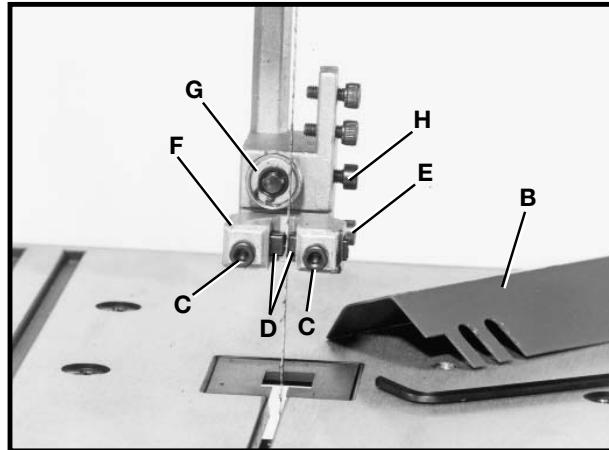
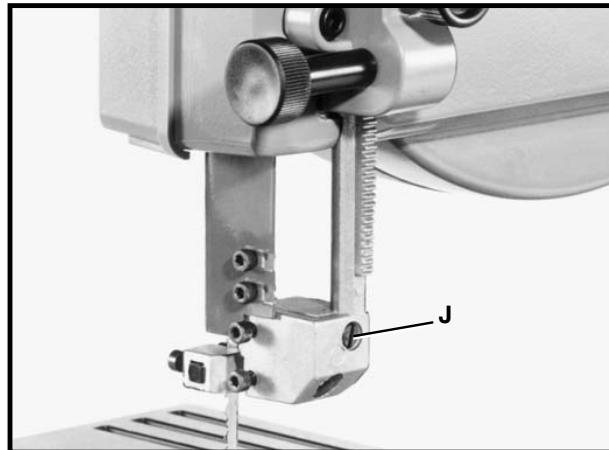

Fig. 22
Fig. 23
1. **NOTE:** Upper blade guard (B) Fig. 22, is shown removed for clarity.
2. Loosen the two screws (C) Fig. 22, and adjust the blade guides (D) as close as possible to the sides of the saw blade, being careful not to pinch the blade. Then tighten the two screws (C).
3. Loosen screw (E) Fig. 22, and move the guide bracket (F) in or out until the front edge of the guides (D) are just behind the "gullets" of the blade teeth. Then tighten screw (E).
4. The upper blade support/thrust bearing (G) Fig. 22, prevents the saw blade from being pushed back too far when cutting. The support bearing (G) should be adjusted approximately 1/32 in. behind the blade, so the back of the blade overlaps the outside diameter of the ball bearing by approximately 1/8 in. To adjust, proceed as follows:
5. Loosen screw (H) Fig. 22, and slide support bearing (G) in or out until it is approximately 1/32 in. behind the saw blade.
6. The upper blade support bearing (G) Fig. 22, is set on an eccentric shaft. To change position of bearing (G), use a straight screwdriver, rotate shaft (J) Fig. 23, until the blade properly overlaps the support bearing. Then tighten screw (H).